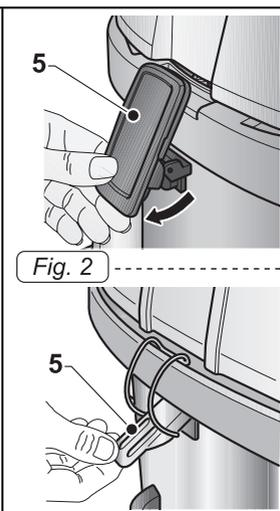
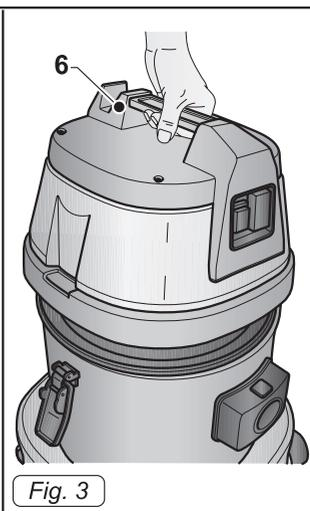

Fig. 2
Fig. 3
- Release the levers (5 Fig. 2) and remove the cover (6 Fig. 3) complete with the motor unit.
- Place the cover back on (5 Fig. 2) and lock it using the levers.
- Place the cover back on and lock it using the levers (5 Fig. 2).